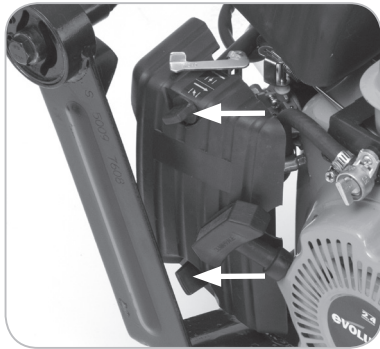

Fig. 14
- Unscrew the wing nuts from the Air Filter housing cover and remove it. **(Fig. 14)**